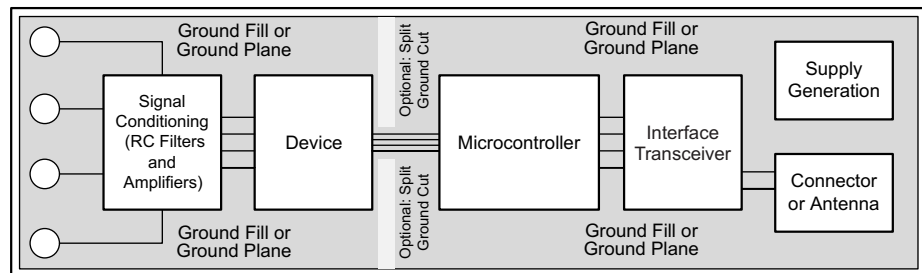

Figure 120. System Component Placement
Employing best design practices is recommended when laying out a printed-circuit board (PCB) for both analog and digital components. This recommendation generally means that the layout separates analog components [such as ADCs, amplifiers, references, digital-to-analog converters (DACs), and analog MUXs] from digital components [such as microcontrollers, complex programmable logic devices (CPLDs), field-programmable gate arrays (FPGAs), radio frequency (RF) transceivers, universal serial bus (USB) transceivers, and switching regulators]. An example of good component placement is shown in Figure 120. Although Figure 120 provides a good example of component placement, the best placement for each application is unique to the geometries, components, and PCB fabrication capabilities employed. That is, there is no single layout that is perfect for every design and careful consideration must always be used when designing with any analog component.